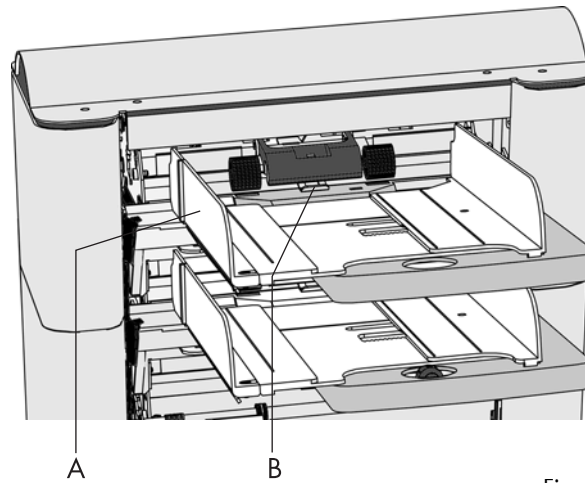

Fig. 15
- place the document feeding tray under guide B (as shown in Fig. 15).
Open the left-hand side guide A (Fig. 15) by turning it downwards. The feed rollers will automatically be lifted.